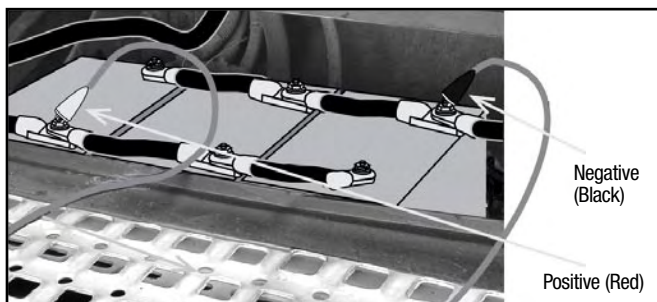

Figure 5. Starter and Battery Bank Lead Attachment
1. Connect the leads (Figure 5):